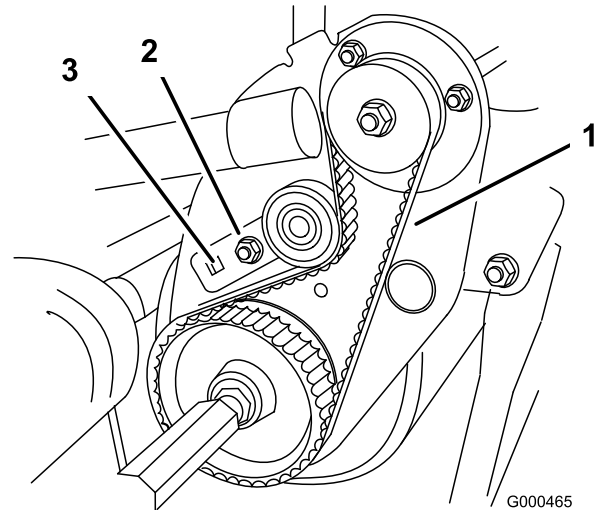

Figure 43
- B. Using a $3/8$ inch drive torque wrench, rotate the idler bracket with 35-40 in.-lb. of torque to set the belt tension (Figure 43). While holding the torque wrench setting, tighten the idler bracket mounting bolt (The tang washer is installed to prevent the belt from slipping.). Do not over-tension the belt.